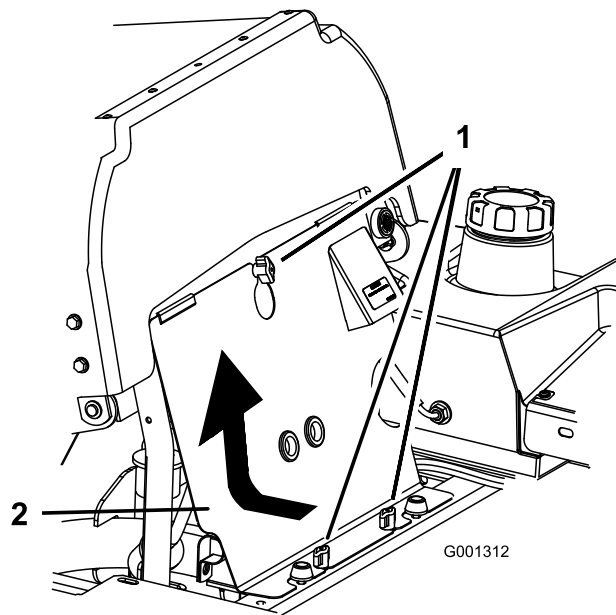

Figure 78
- Loosen the front engine panel knobs and remove the panel (Figure 78).